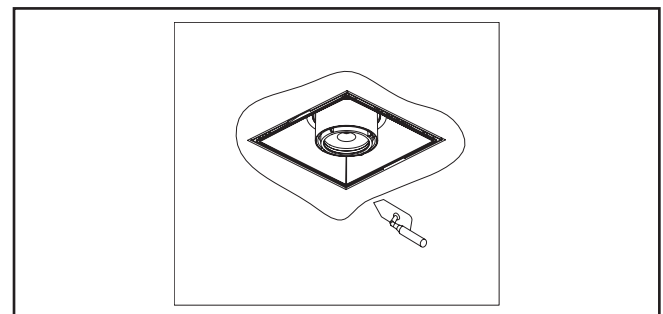

Figure 1.12.
8. To finish - apply a generous amount of joint compound on trim flange. Mud-in up to the trim, around the edge of the fixture. (Figure 1.12)